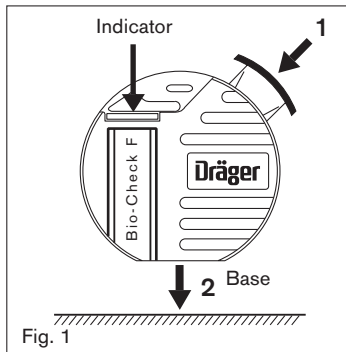

Fig. 1
- Subsequently activate Bio-Check F (Fig. 1): Hold Bio-Check F upright in the hand (base downwards)
- 2 Should the indicator not be moistened, knock the base of the Bio-Check F onto a firm surface (Fig.1). Observe the indicator. After 10 to 15 seconds, the indicator will be moist and thus ready for measurement.